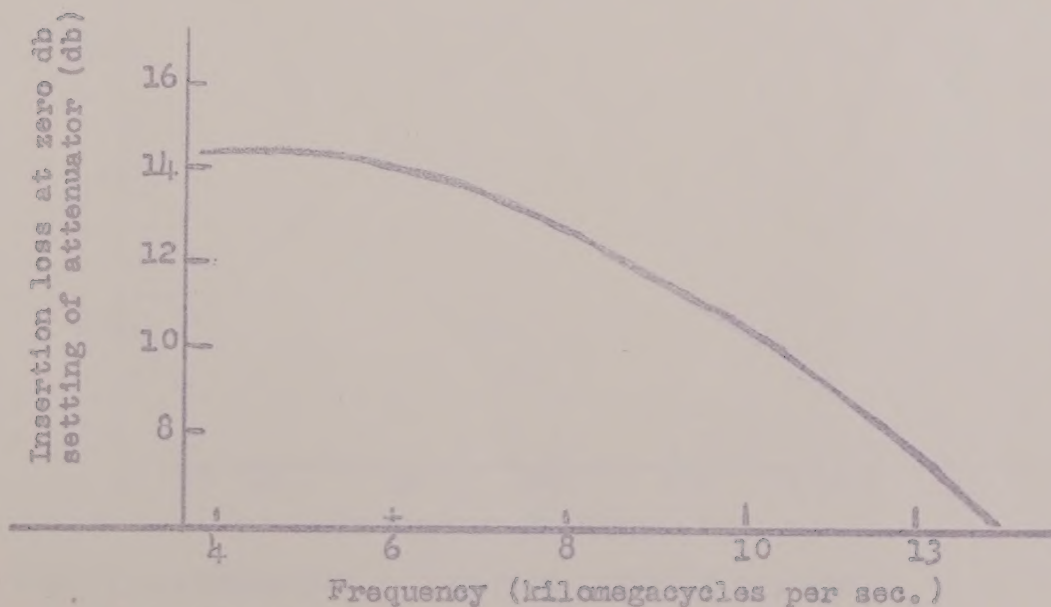

FIG. 3 - Insertion loss at zero setting of Model SIJ
- a. Through its use a Polarad Microwave Signal Source or a laboratory oscillator may be converted into a signal generator. Attenuation of the output permits direct coupling to the load and reduces to a very low level r-f reflections due to variations in the load impedance. By means of the calibrated dial and calibration curves (Fig. 3, 4, and 5) the input to the load may be calibrated in db.